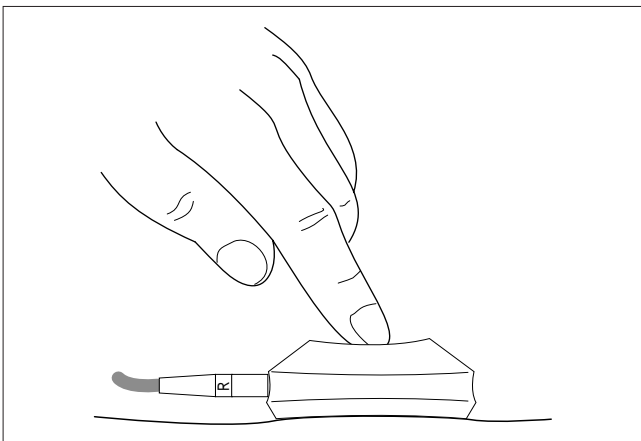

Figure 4-2. Applying an electrode
- \* Place the electrode on that site and press gently on the electrode's suction cup (Figure 4-2).